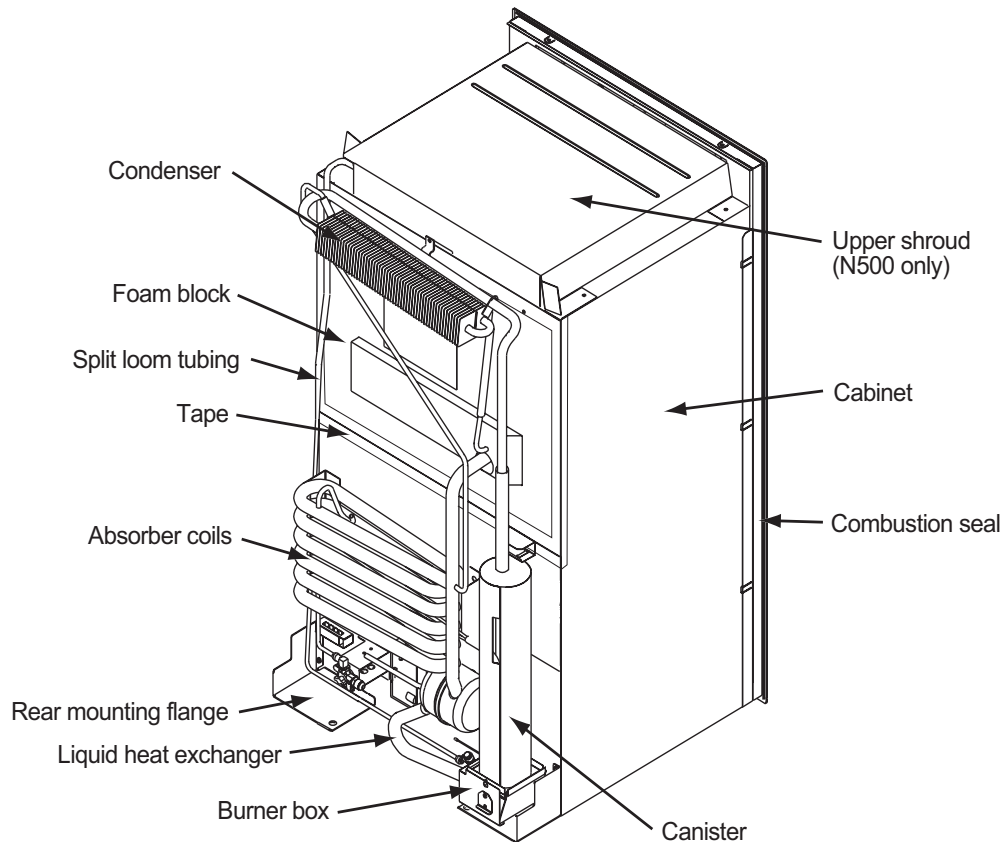

Figure 31. Cooling unit and components
Refer to Figures 31, 32, and 33 to locate components.
8. Tape the edge of the foam plug to the cabinet. Use HVAC metallic tape or heavy duty duct tape. See Figure 31.